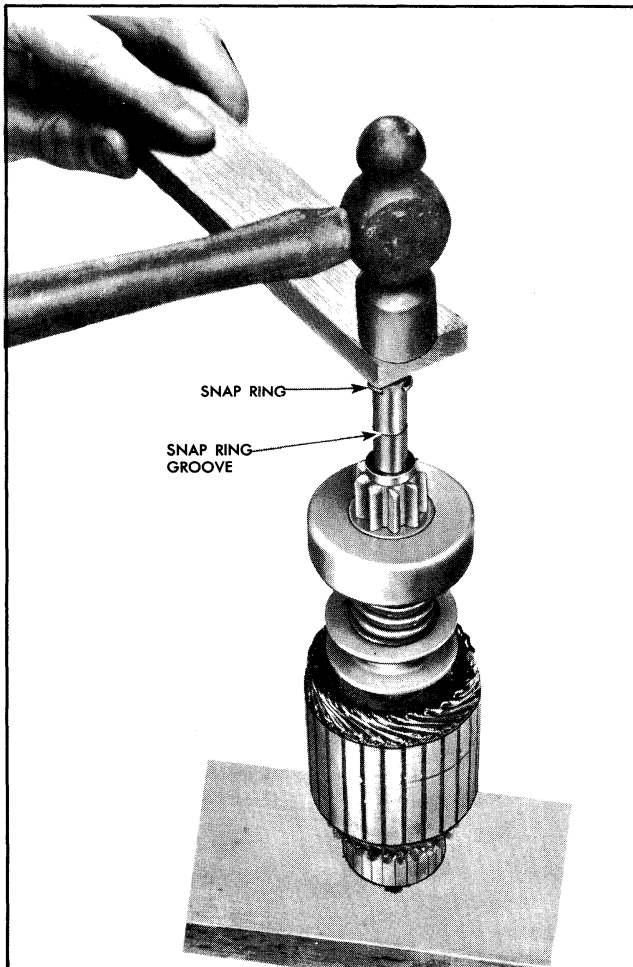

Fig. 11-14 Forcing Snap Ring Onto Armature Shaft
d. Stand armature on end of wood surface with commutator down. Position snap ring on upper end of shaft and hold in place with a block of wood. Hit wood block a blow with hammer forcing snap ring over end of shaft. Slide snap ring down into groove (Fig. 11-14).